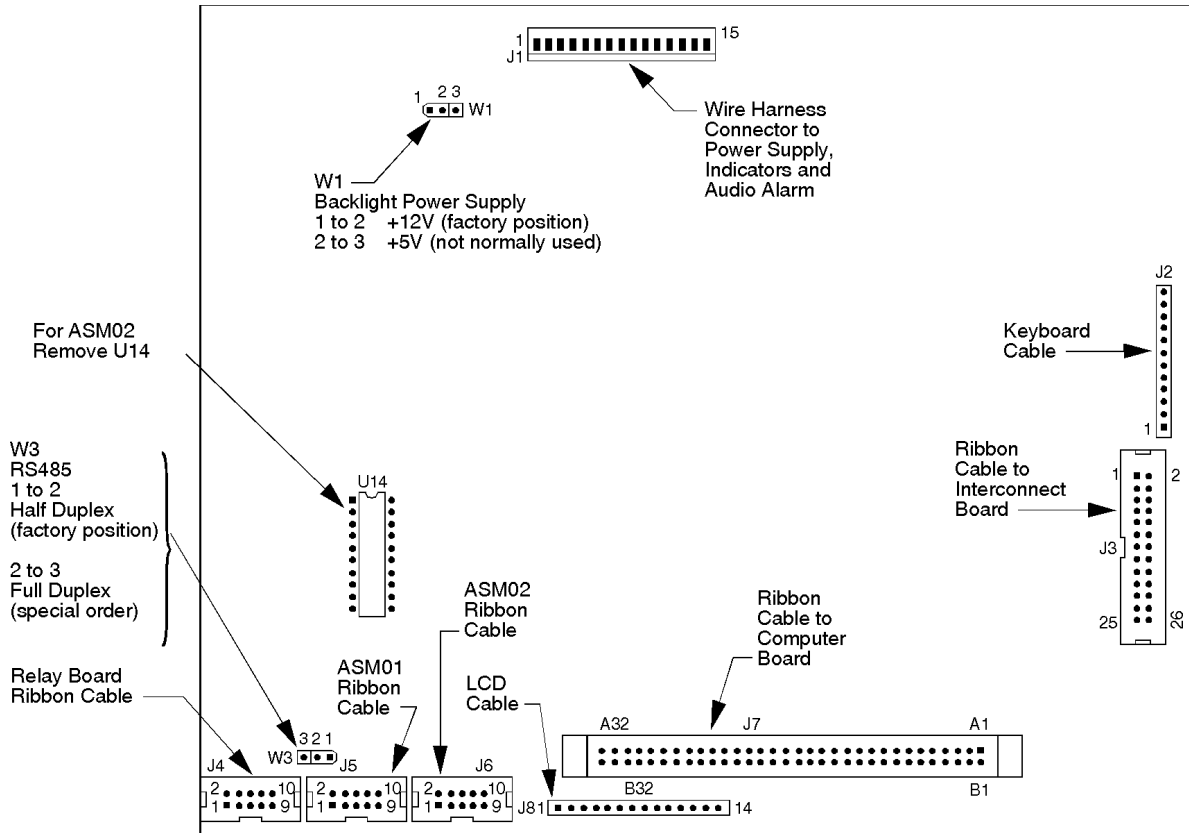

Figure 9.3 ASM1000/ASM1001 Baseboard.
- Verify that on the ASM Main Board jumpers installed W1 from 1 to 2, W3 from 1 to 2, and that there is no jumper in W2. Refer to Figure 9.3.